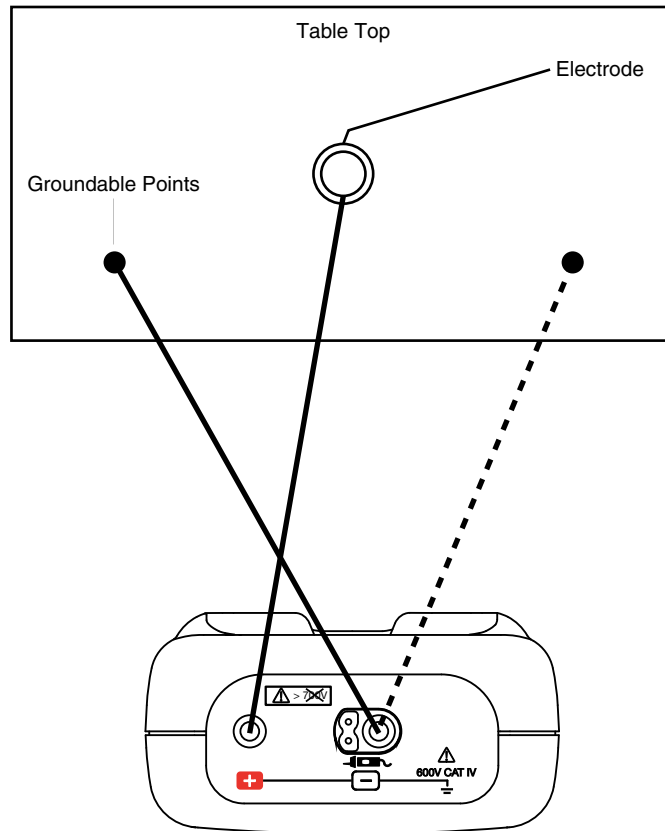

Figure 6
4. Repeat this procedure with the Model 6536 connected between one weight and a known electrical ground (Figure 6).
- Resistance from test electrode to a groundable point (Figure 6): Measured value:  $\leq 10,000\text{M}\Omega$  ( $10\text{G}\Omega$ )